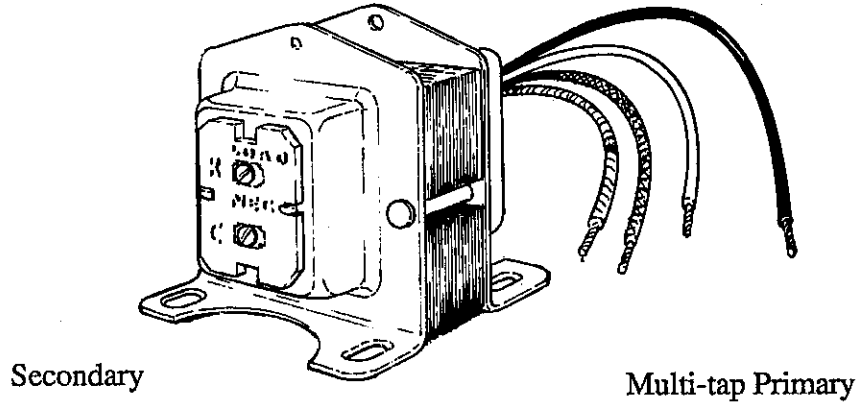
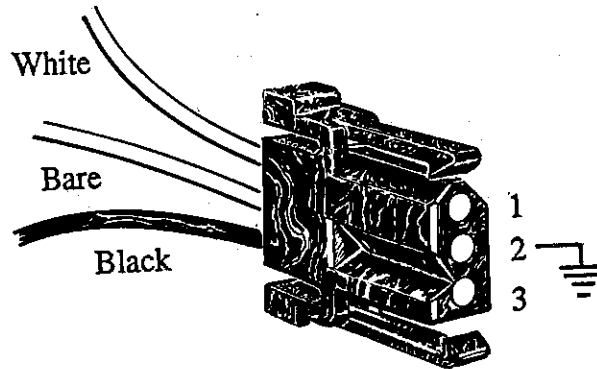
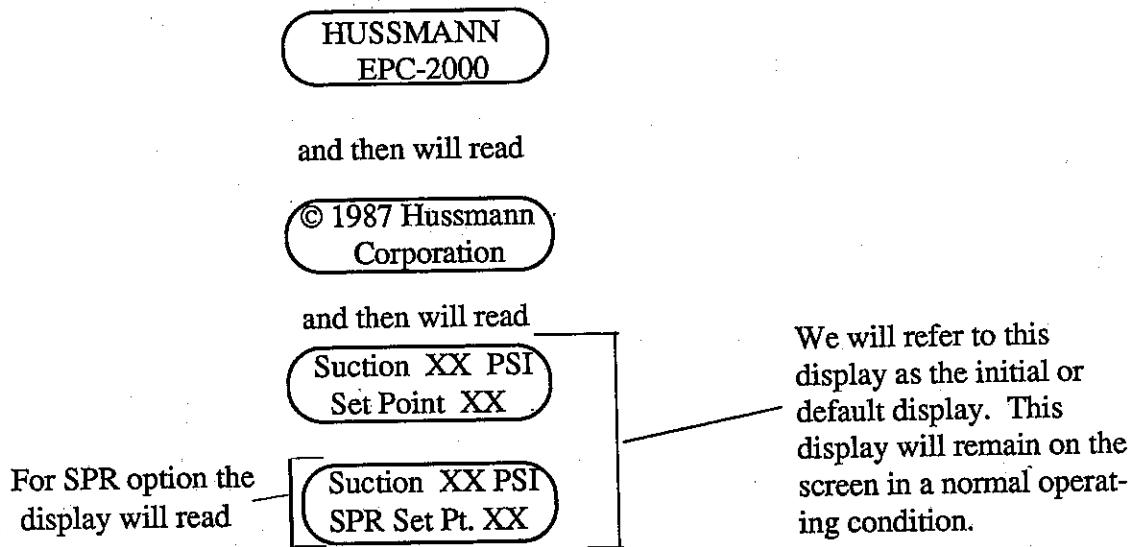

Figure 1-8. Control Transformer
Figure 1-12. 24V AC Power Plug Assembly
Figure 3-2. Initial Display
The control transformer is the power source for the EPC-2000, providing conversion from power line voltages to 24V AC. See Figure 1-8. The transformer is connected to the processor assembly by the power plug assembly. See Figure 1-12.
4. Using a digital multimeter, verify 24V AC secondary supply across terminals 1 and 3 of the power plug assembly (Figure 1-12). If the power supply is 21-30V AC, connect power plug assembly into the 24V AC connection on side of processor assembly. When the EPC-2000 is first powered up, the initial display will appear as shown in Figure 3-2.